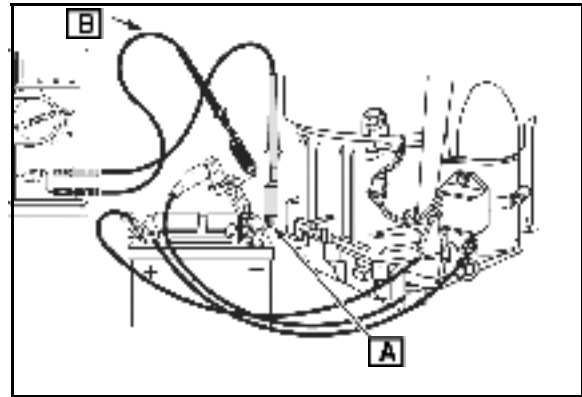

Fig. 25
3. Connect RED test lead to Red post terminal on shunt ([A] Fig. 25).
4. Connect BLACK test lead to BLACK post terminal on shunt ([B] Fig. 25).